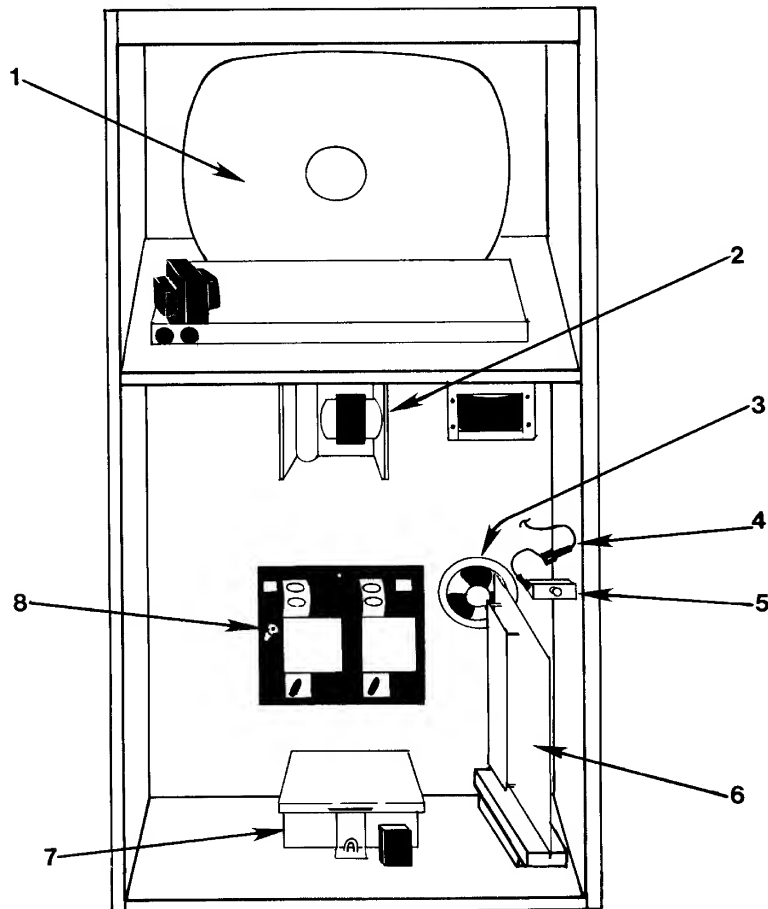

Figure 7: Major Internal Components
3. From inside the cabinet, remove the three control panel nuts (see Figure 7).